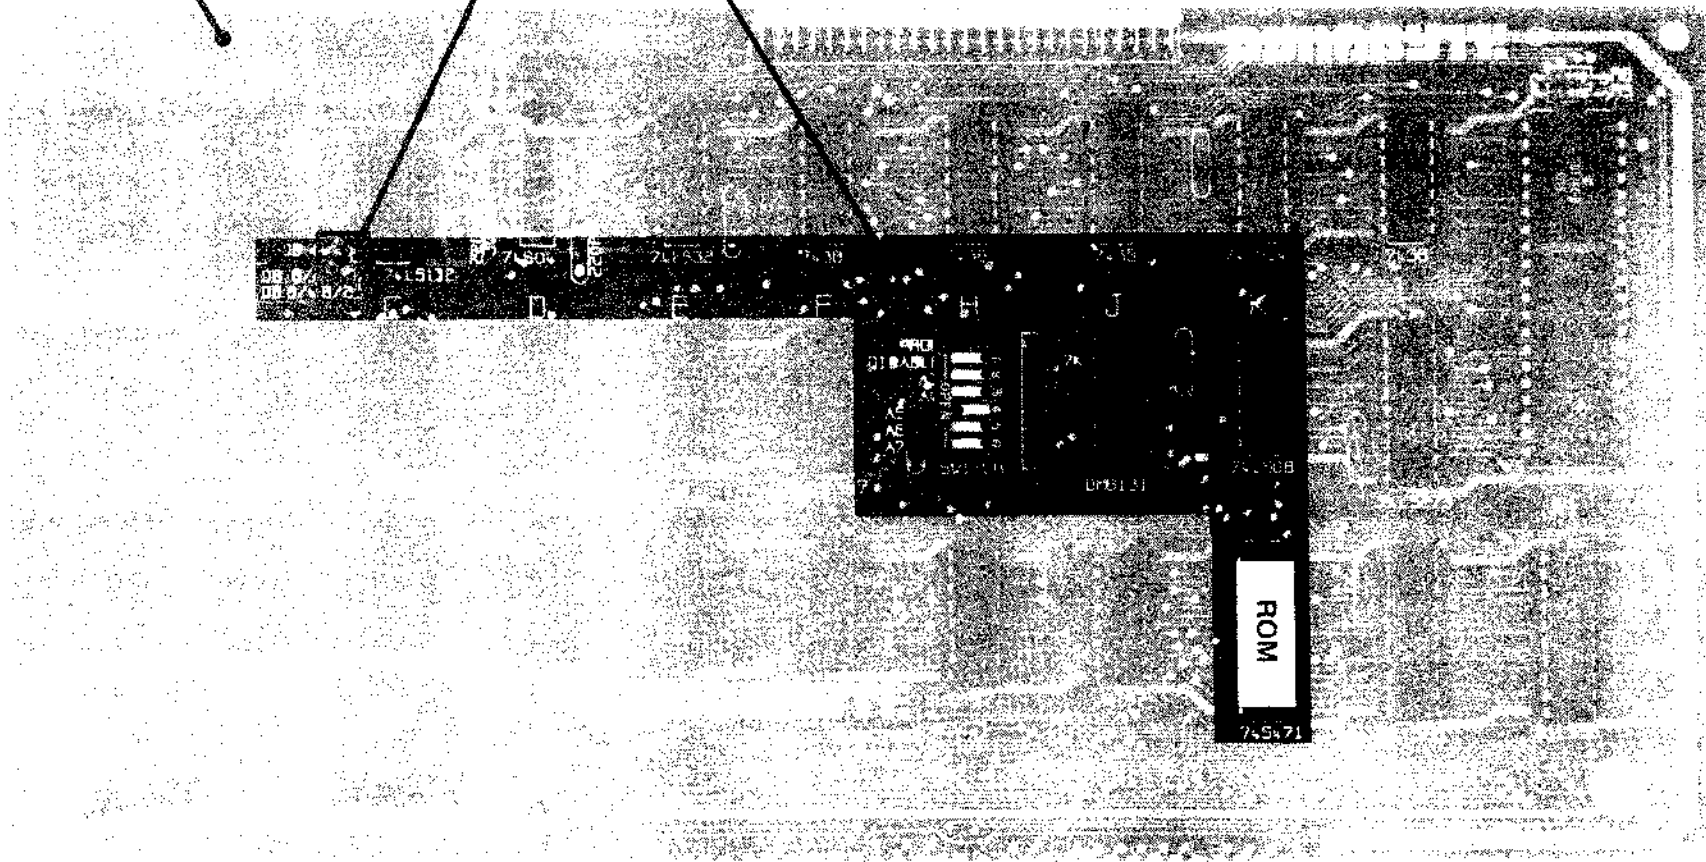

Figure 2-1 – Main Disk Controller – 800741
2.02 The Main Disk Controller, 800741, is an S-100 Bus card. Refer to Figure 2-1. This PCA measures 5 inches x 10 inches. A 100-pin edge connector mates with the S-100 Bus connector of the 5100/5200 Computer motherboard. This connector is offset by 5/8 inch from the pc board centerline, i.e., the Main Disk Controller cannot be inserted into a motherboard backwards.
The Main Disk Controller, integrated circuits and some major components derive their reference designators from the row-column matrix silkscreened onto the pc board. Refer to Figure 2-1. Columns are A to M and Rows are 1 to 3. An integrated circuit located at the lower right corner is M3. The Auxiliary Controller follows a similar convention.